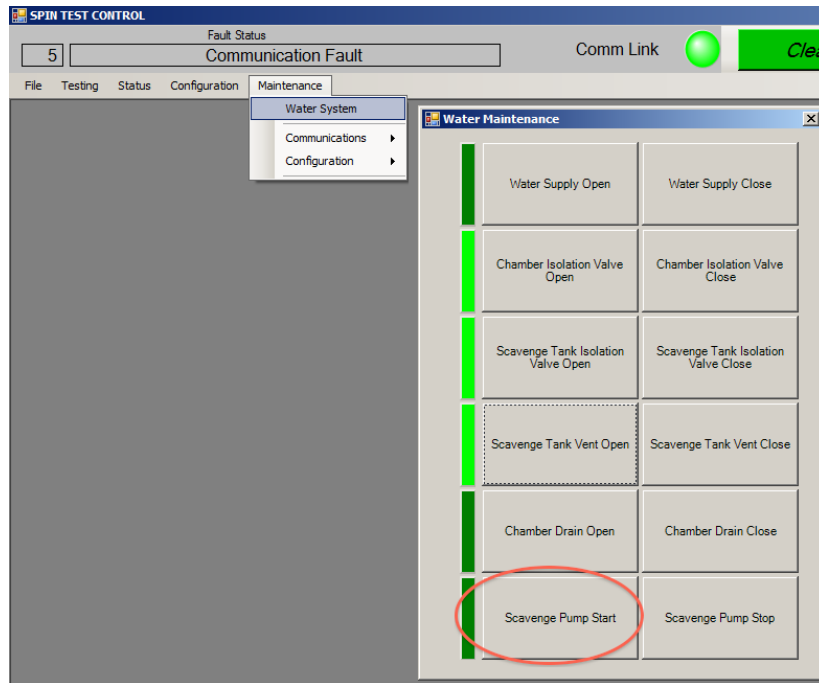

Figure 22: Scavenger Pump Start
3. Click on “Scavenger Pump Start” in the Water Maintenance window. See figure 22